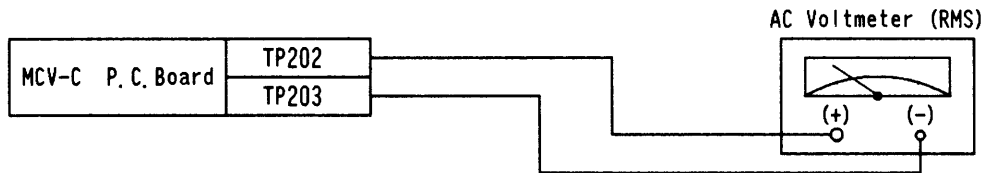

Fig. 3-7
1. Connect the equipment as shown in Fig. 3-7.